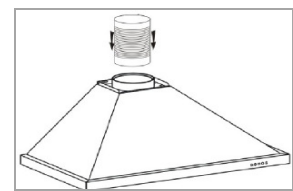

Fig. 4
- Secure the housing with the screws 2x ST4\*30 through the hood body (**Fig. 4**).